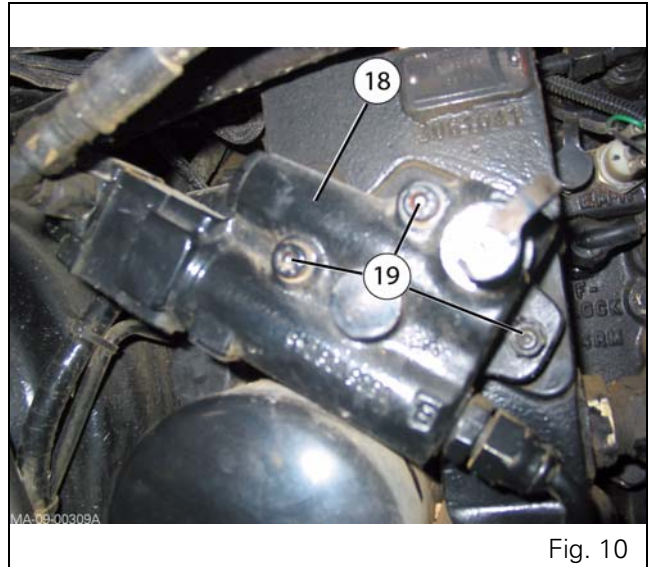

Fig. 10
8. If the tractor is fitted with a trailer braking system, take out the screw and (19) remove the valve (18) (Fig. 10) (see section 09D03).